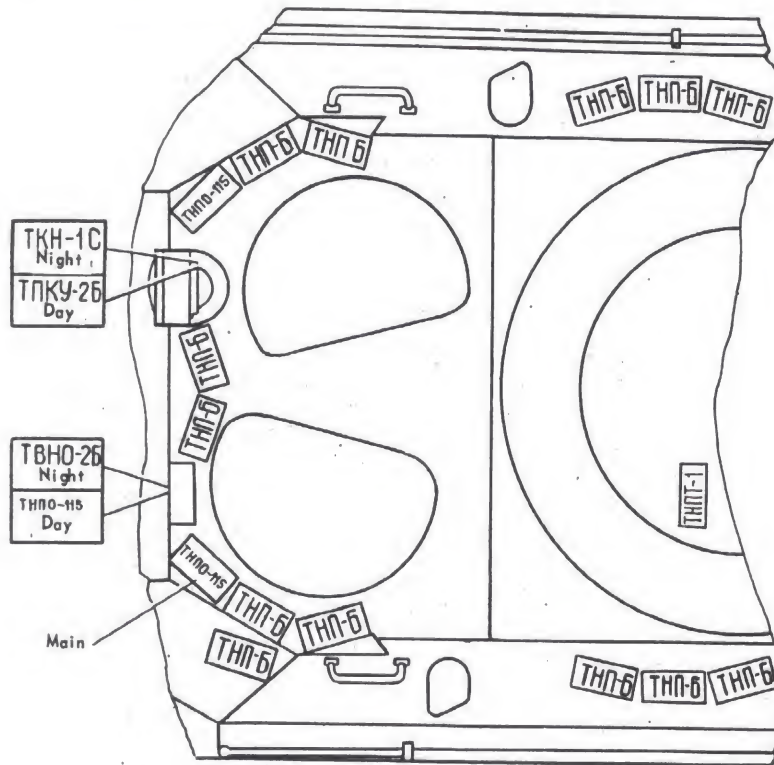
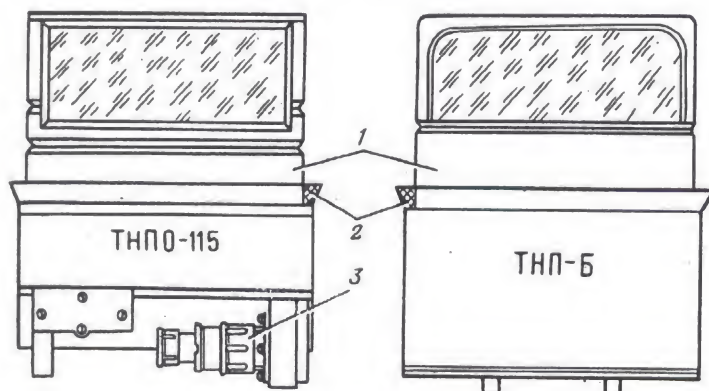
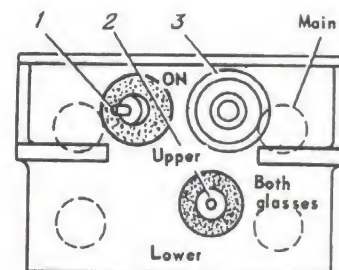
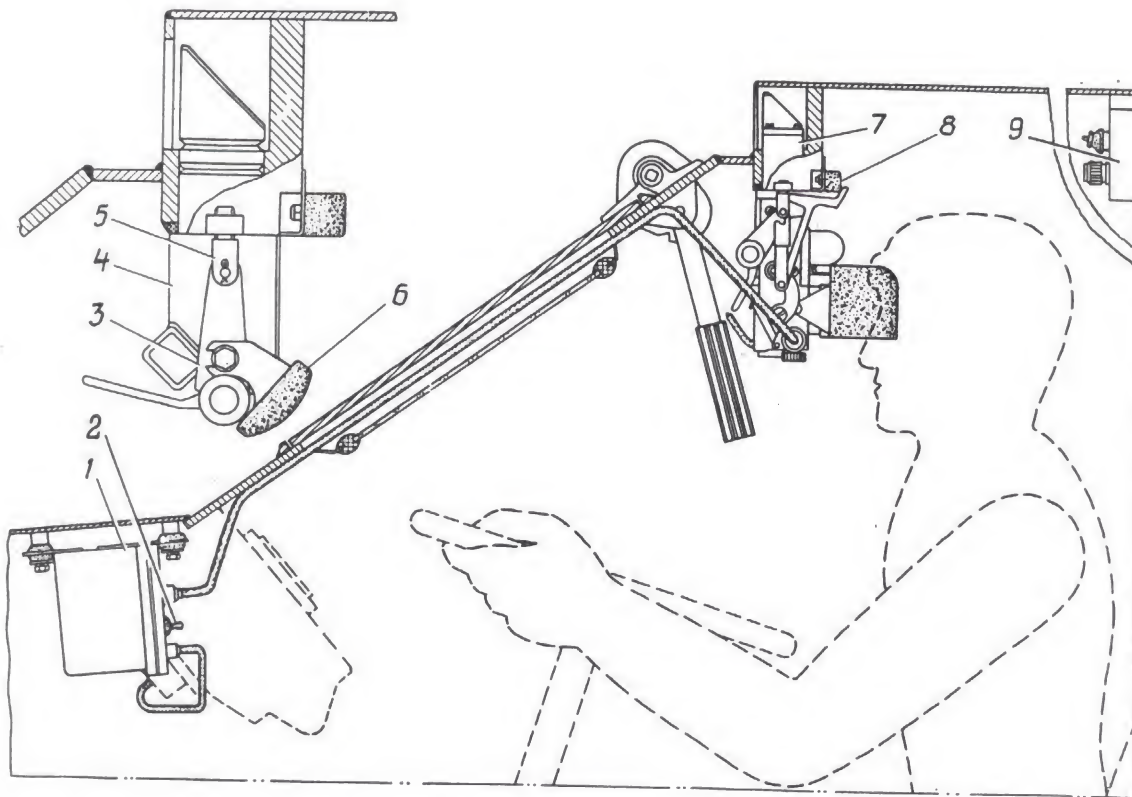

FIG. 96 ARRANGEMENT OF VISION DEVICES
FIG. 98. VISION DEVICES THPO-115 AND THP-5
FIG. 99. GLASS TEMPERATURE REGULATOR PTC-27-3A
FIG. 102. INSTALLATION OF DRIVER'S VISION DEVICES
To observe the road and terrain, the vehicle is equipped with special devices (Fig. 96) for the commander, the driver and the crew.
Depending on the combat situation, the commander in the day-time observes the road and terrain through vision devices type TPKY-2B, type THH-6 and type THHO-115, or through the windshield. To observe the road and terrain at night, the commander makes use of night vision device, type TKH-1C. Vision devices TPKY-2B and TKH-1C, depending on the time of the day, are mounted alternately in one and the same shield located in the front armour plate in front of the commander (Figs 96 and 106). Vision
Vision devices THPO-115 and THP-5 (Fig. 98) are mounted in special seats and can be easily removed. Tightness of these devices is ensured by special rubber gasket 2 which is trapezoidal in section. In case tightness is lost, compress the gasket. For this purpose, remove the device and disconnect clamp 3 (Fig. 102) from yokes 5, then screw in the yokes through the required distance, connect clamp 3 with yokes 5 and reinstall the device.
by weather. The heating system is cut in for all the three devices simultaneously by means of the switch located on glass temperature regulator PTC-27-3A which is secured on a special bracket behind the driver's hatch (see Fig. 102). In addition to main switch 1 (Fig. 99), glass temperature regulator PTC-27-3A has change-over switch 2. The latter is used to apply the heating system to the upper prisms of the device, to the lower prisms, or to both.
When connecting the bundle of wires to the temperature regulator (if connectors have been detached; it is necessary to pay attention to proper connection of main device THNO-115. It should be joined to a connector marked MAIN (ВЕДУЩИЙ) (see Figs 96 and 99). Six wires of main device THNO-115 and three wires of two other devices THNO-115 each are attached to the connectors intended for coupling devices THNO-115. Check the devices for proper connection in the operation. Improper connection will result in failure of switching the devices heating (pilot lamp 3 (see Fig. 99) does not glow).
The driver carries out observation in the day-time through devices THN-B, THNO-115 or through the windshield depending on the combat situation, and at night through night vision device TBHO-2B installed in the seat of vision device THNO-115 in front of the driver (Figs 96 and 102). The driver's vision devices TBHO-2B and THNO-115 are stowed alternately in one and the same box whichever is not used. The box is kept in its authorized place in the bay between the front left-side wheel and the auxiliary wheel.
Before mounting night vision device TBHO-2E in place, remove pad 6 (Fig. 102) from clamp 3 upon giving the pad bolts several turns back. This done, disconnect the plug connector and pull vision device THHO-115 out of its seat. Put pad 6 and vision device THHO-115 into the stowage box of vision device TBHO-2E.
- (a) set power pack switch 2 (Fig. 102) on the ON position;